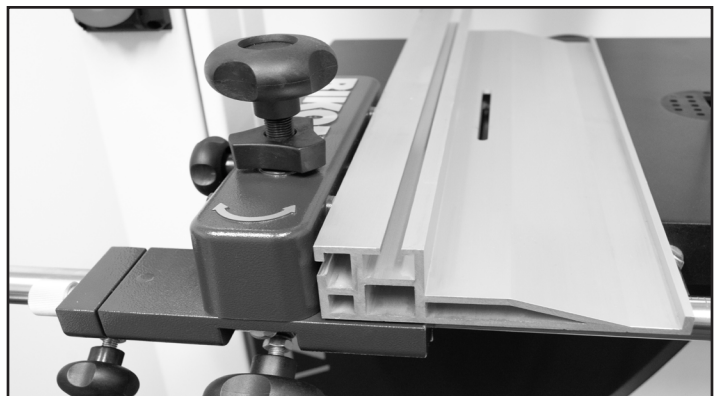

FIGURE 36
3. Turn the fence down to its horizontal position and slide it back onto the carrier. The bottom of the fence is slotted to mount on the sliding block, and position itself on the small, raised key on the side of the carrier. Fig. 36, D.